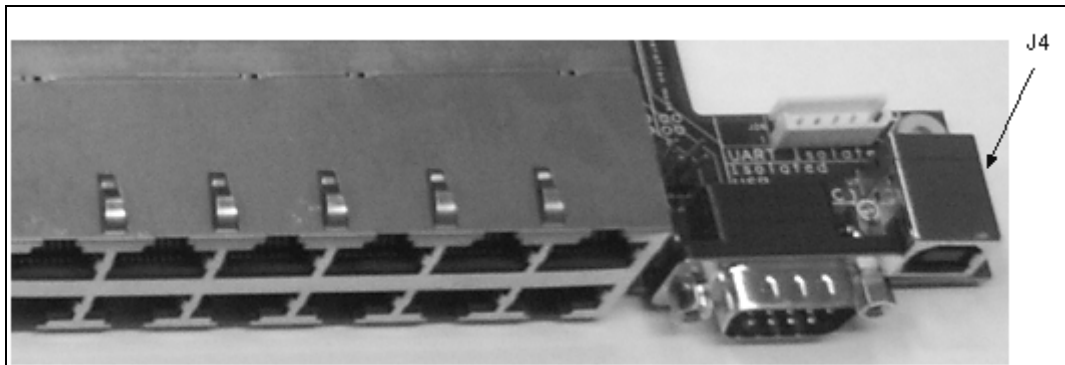

Figure 10: Isolated USB Interface
**6. Isolated USB Interface** (see Figure 10)